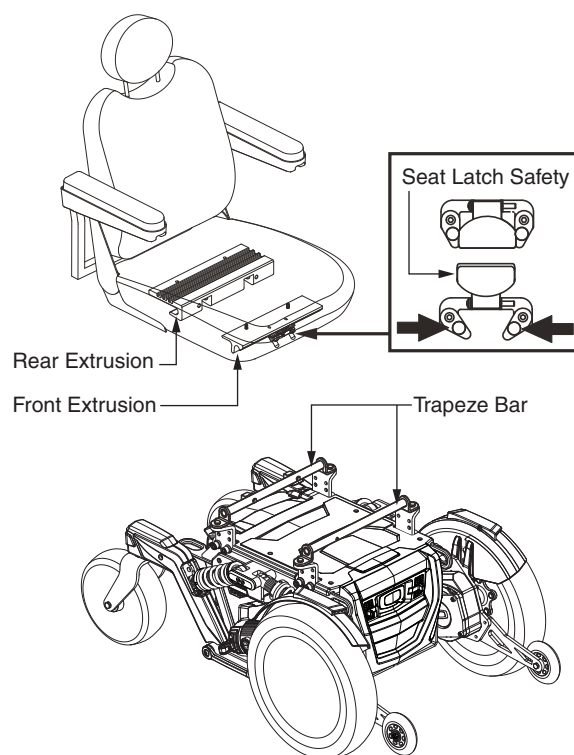

Figure 5. Universal Mounting System and Contour Seat
It may be necessary to install the seat either prior to initial operation or after transporting your power chair. Contour seats are attached to the power base with the Universal Mounting System (UMS). The UMS consists of universal parts that may be attached to the seat, regardless of seat width or seat depth. The two main components are aluminum extrusions mounted to the seat base. These extrusions attach to a pair of trapeze bars that are mounted to the power base. See figure 5.
1. Tilt the seat back and slide the rear extrusion onto the rear trapeze bar. See figure 5.
4. Flip up the seat latch safety. **See figure 5.**